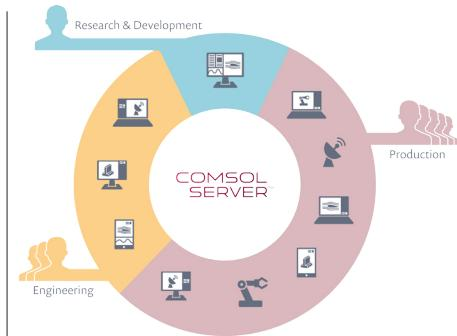

FIGURE 1: Apps are created by the R&D team using the Application Builder, and then used by other departments by connecting to the COMSOL Server™ environment.
Capacitive touchscreens (see Figure 1, top) are by far the most commonly used method of touch sensing in the electronics industry, and consist of varying layers of transparent lenses, substrates, adhesives, and indium-tin-oxide (ITO) electrodes. Together, these elements are known as touchscreen panels (TSPs) or stack-ups. Depending on the type of product in which they will be used, each stack-up and electrode pattern is customized for its intended environment and use. A stack-up (see example shown in Figure 1, bottom) contains an LCD layer, followed by a substrate, a pattern of horizontally and vertically aligned diamond-shaped ITO electrodes, and finally an optically clear adhesive layer that bonds the glass cover onto the screen.
FIGURE 1: Top: Capacitive touchscreen module. Bottom: Typical touchscreen sensor stack-up where a stylus' position is detected because of the change in the electrodes' coupling capacitance.
and whether the “touch object” is moving in a certain direction. To achieve this, a capacitive sensor is composed of a pattern of horizontally and vertically connected ITO electrodes, where a touch object is sensed at the grid intersection. When a finger or stylus touches the screen’s surface, it distorts the electrostatic field and causes a measurable change in the coupling capacitance between the transmitting and receiving electrodes (see Figure 1, bottom).
THE COMSOL MULTIPHYSICS® software and the Application Builder allow R&D engineers to share their simulation expertise with others in a way that is fast, easy, and customizable (see Figure 1). With the Application Builder, an R&D engineer can readily build an intuitive interface around any COMSOL® software model and customize it for the application’s intended use. The resulting simulation app retains the functionality of the original model, but has a simplified user interface (UI) through which the app user can only edit certain inputs, materials, geometry, or other parameters, and then recalculate the new design’s expected performance. Such an app can be created from within a single software environment using COMSOL Multiphysics.
FIGURE 1: Top: Concept behind WiTricity's technology, including coils, electronics that control power output and regulation, and wireless communication between the source and capture devices to ensure the correct power output. Bottom: The technology supports charging through surfaces of different materials (left); the wireless range may be extended using resonant repeaters (right).
A capture device, which acts as a receiver and captures the magnetic field, contains another coil tuned to the same frequency as the source (see Figure 1).